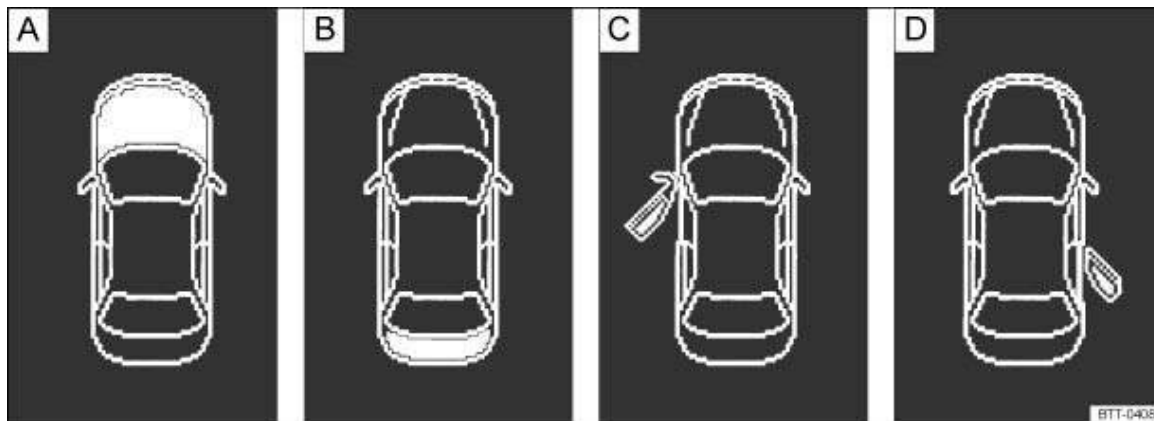

Fig. 12 A: bonnet open, B: tailgate open, C: front left door open, D: right rear door open (only in four-door vehicles)
- Open doors, bonnet and tailgate → *Fig. 12*